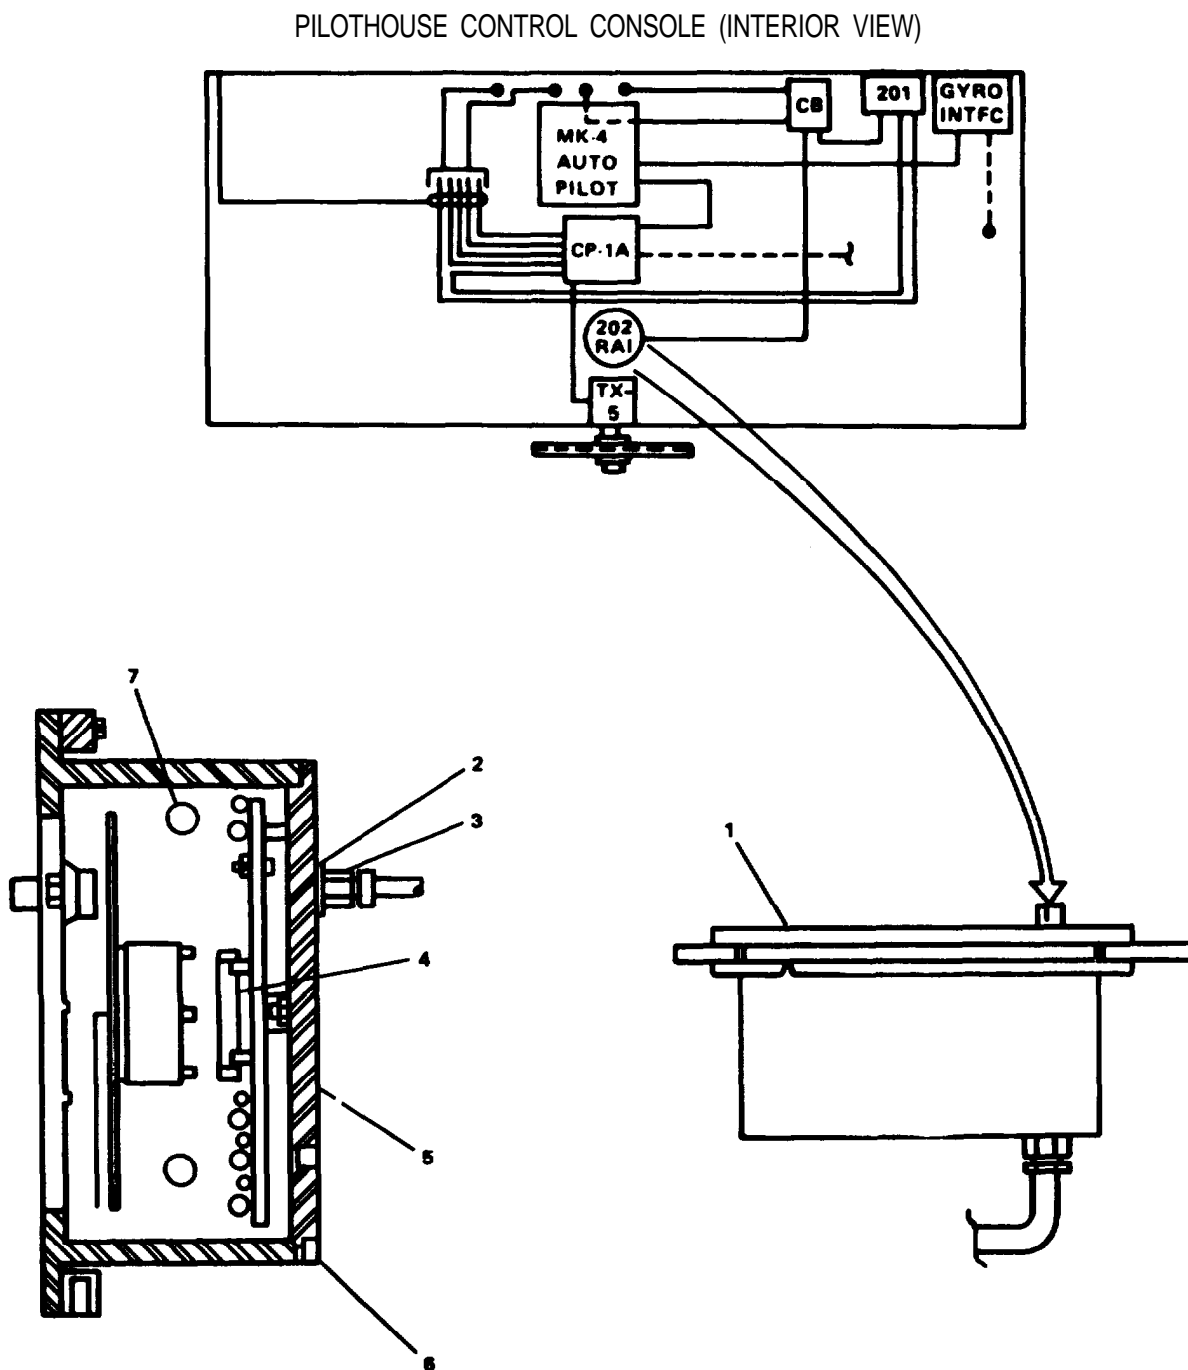

FIGURE 2-92. Rudder Indicator. Pilothouse Console.
**2-114. Repair Rudder Indicator. (FIGURE 2-92)**